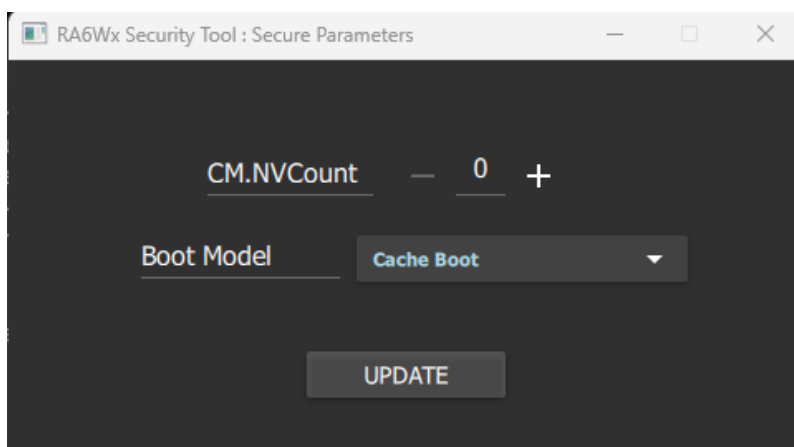

Figure 31. Secure key renewal CM NV count update
3. (Optional) If necessary, you can increment the anti-rollback counter (CM.NVCount), see Figure 31.